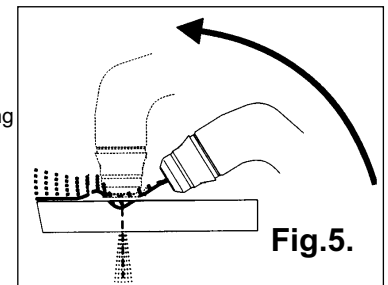

Fig.5.
- 6.3.2. For thicker material, place torch nozzle at an angle, ignite the torch, then slowly and smoothly bring the torch head to the upright position (fig 5).